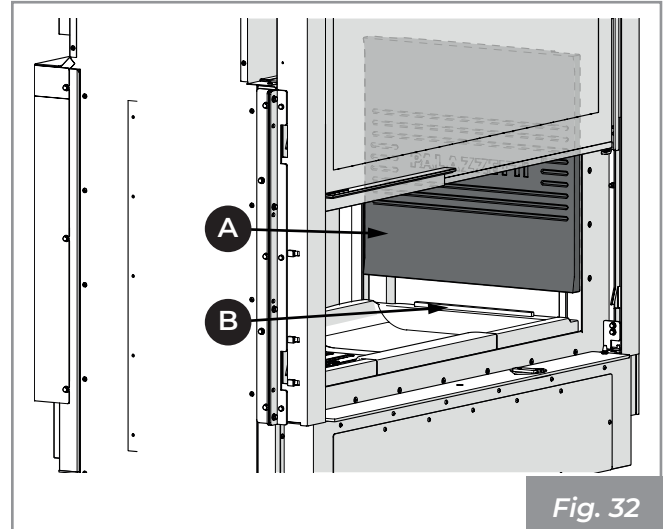

Fig. 32
- 1) Place the refractory back plate (A) on the Econoblocco wall and gently slide it into position, centring it with the protuberance (B) present in the refractory brick base (Fig. 32).